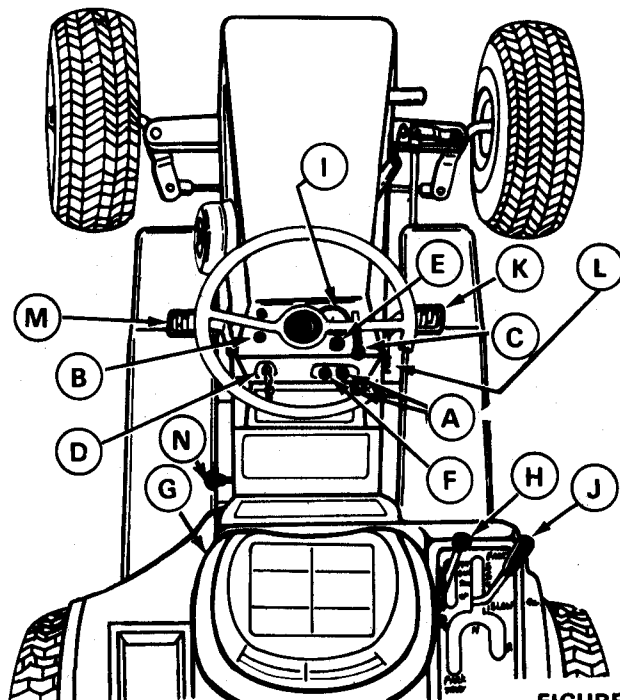

FIGURE 1
A IMPLEMENT POWER CONTROL SWITCH - FIGURE 1
B IMPLEMENT POWER INDICATOR LIGHT - FIGURE 1
C THROTTLE LEVER - FIGURE 1
D IGNITION SWITCH - FIGURE 1
E CHOKE CONTROL - FIGURE 1
F LIGHT SWITCH - FIGURE 1
G SEAT INTERLOCK SWITCH - FIGURE 1
H HYDRAULIC LIFT - FIGURE 1
I AMMETER - FIGURE 1
J HAND CONTROL LEVER (OR SHIFT LEVER) - FIGURE 1
K BRAKE PEDAL — FIGURE 1
L PARKING BRAKE — FIGURE 1
M NEUTRALIZER PEDAL — FIGURE 1
N LIFT SELECTOR — FIGURE 1
3. Lower the Sno-Thro and start the auger rotating by pulling out the Implement Power Control Switch (Figure 1) with the engine running at 1/3 fast throttle (Figure 1). Increase engine speed to full throttle after the Sno-Thro auger is rotating.
4. For maximum snow removal and discharge, operate the engine at full throttle and regulate the travel speed with the Hydrostatic Control Lever and/or Shift Lever. See Figures 1 and 4.